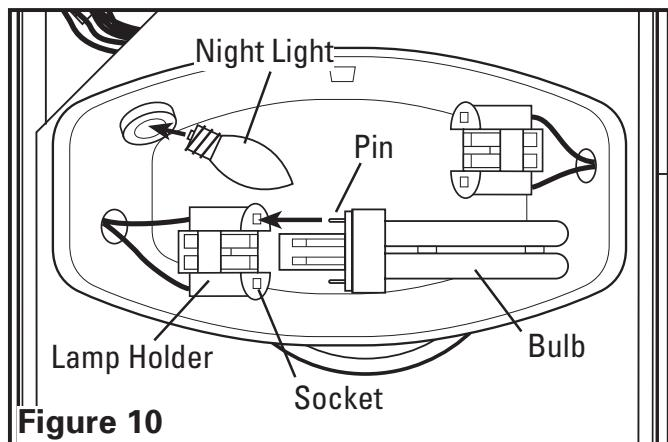

Figure 10
- Install the two included 13 watt fluorescent bulbs into the lamp holders by lining up the pins on the bulb base to the socket of the lamp holder and pressing towards the lamp holder until the bulb snaps into place and is firmly seated in the lamp holder. Install a 4 watt maximum type C7 (candelabra base) night light (not included) into the side lamp holder (**Figure 10**).